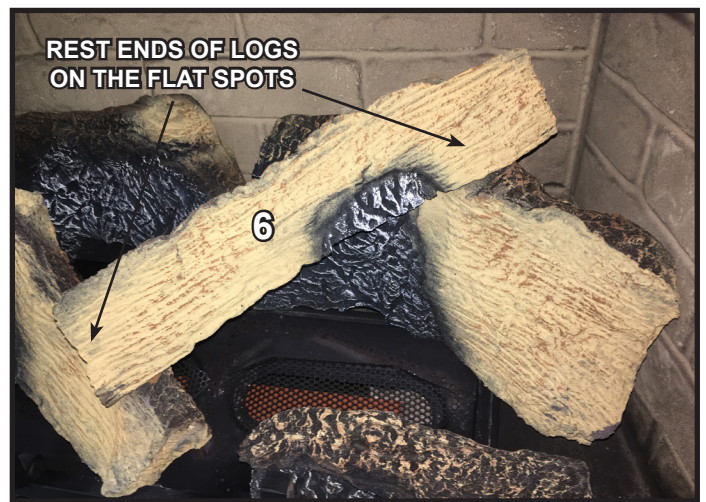

Figure 11. Place Log #6 (Glass Rock not Shown)
**Log #6 (SRV2223-705):** Position Log #6 as shown in Figure 11. See Figures 2, 5 and 10 for additional reference points. Place the front and back ends of the log on the flat spots as shown in Figure 11.